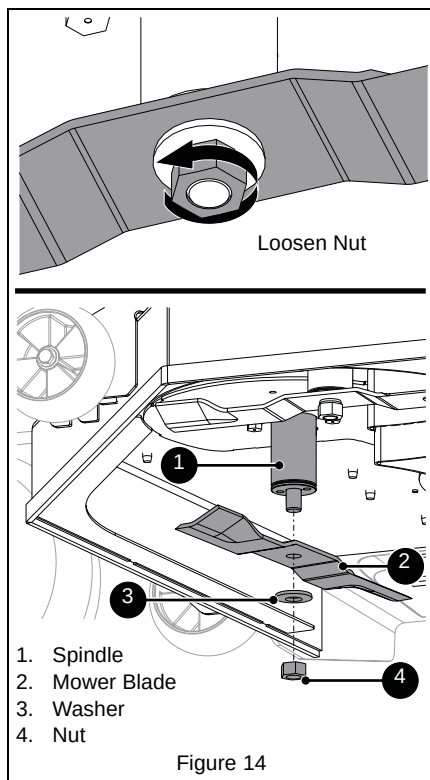

Figure 14
See Figure 14.
1. Reinstall blades, washers and nuts on spindles. See Figure 14.